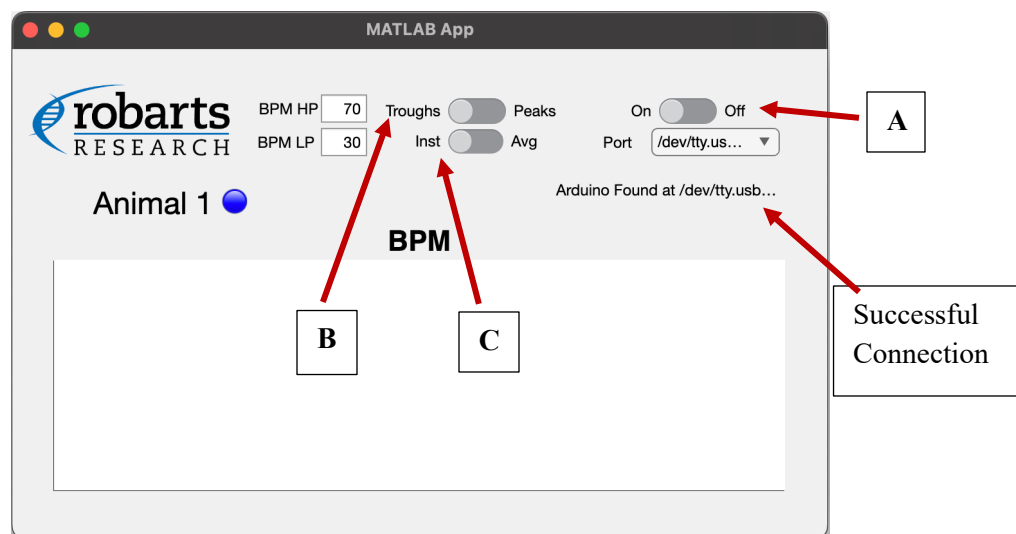

Figure 10
- The following message indicates a successful connection, “Arduino found at /dev/cu.usbmodem14401” (or the other “/dev/tty.usbmodem14401” if it was selected), as shown in the figure 10.
- Then, select the following options: “On” (A), “Troughs” (B), and “Inst” (C), as shown in the previous figure. Once you select the “On” position, you should start acquiring a waveform representing the respiration. “Inst” means “Instantaneous” and it reports the instantaneous Breaths per Minute (BPM). The other option is “Avg” (Average) corresponding to a 10 second average (the length of the recording displayed) but that option is not recommended. Depending on the position of the respiration pillow, sometimes the “Peaks” are better defined than the “Troughs”. If that is the case, select the “Peaks” position.